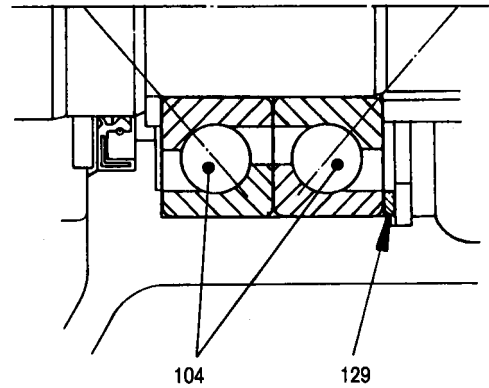

Figure 7: Two single-row angular-contact ball bearings with shim rings.
The two bearings are to be pressed into the bearing bracket (110) in **O-type arrangement**, and adjusted over shim rings (129), without clearance (refer to Fig. 7 below).